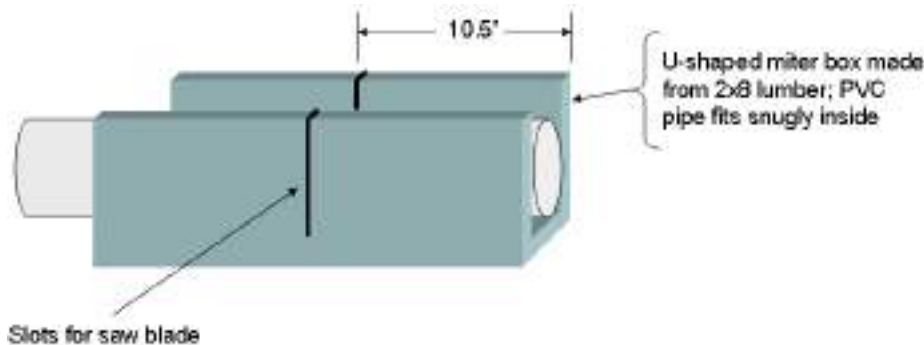

Figure 3. Homemade wooden miter box used to cut PVC pipe. The slot accommodates the blade of a carpenter's hand saw, and helps guide the cut squarely.
- 1) Cut the PVC pipe into 10.5 inch lengths. The material is fairly soft and easily cut with a sharp hand saw, but it can be a challenge to cut the material squarely by hand (and the pipe is too large to be easily cut by typical electric saws). If one needs to make many pieces, a simple wooden miter box can be constructed to help speed the process of making the cuts squarely; see Fig. 3 below.